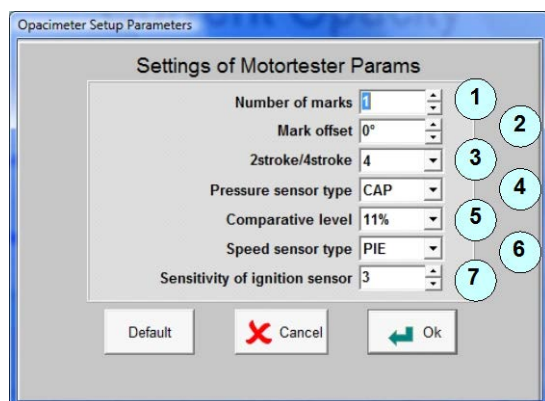

Fig. 17 – Settings of Motortester/Minitester Params
- 7 - Button for Motortester settings - see Fig. 17
Note to Fig. 17: